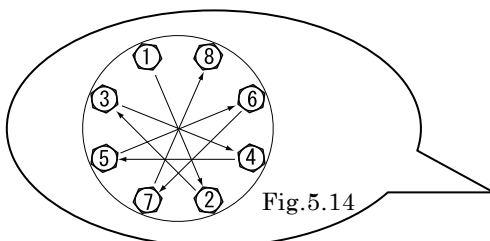

Fig.5.14
- Tighten the bolts gradually in a diagonal sequence with even torque. (cf. Fig. 5.14)